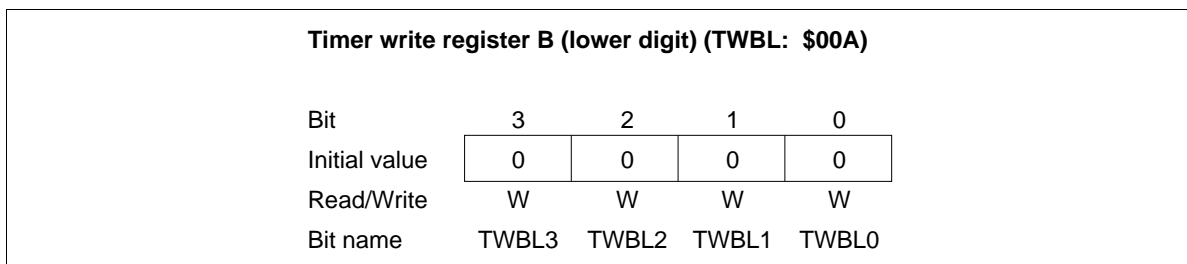

Figure 47 Timer Write Register B Lower Digit (TWBL)
- Timer write register B (TWBL: \$00A, TWBU: \$00B): Write-only register consisting of a lower digit (TWBL) and an upper digit (TWBU) (figures 47 and 48). The lower digit is reset to \$0 by MCU reset, but the upper digit value is undefined.